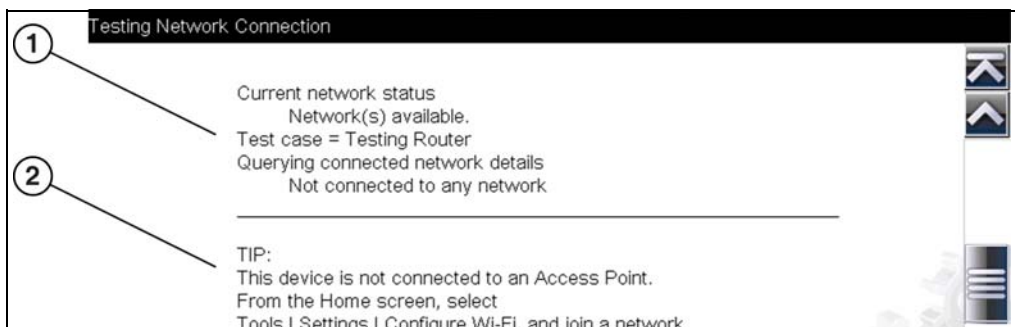

Figure 14-5 View Summary
4. If a connection issue(s) is present, select **View Summary** to review the results. The summary information is helpful if you are experiencing difficulties with your connection (Figure 14-5). Scroll through the summary information to review the test results for each system and Tip messages for the current connection issue. See *Connection Tests - Troubleshooting* chart in Wi-Fi Troubleshooting and Status Messages on page 161 for additional information.